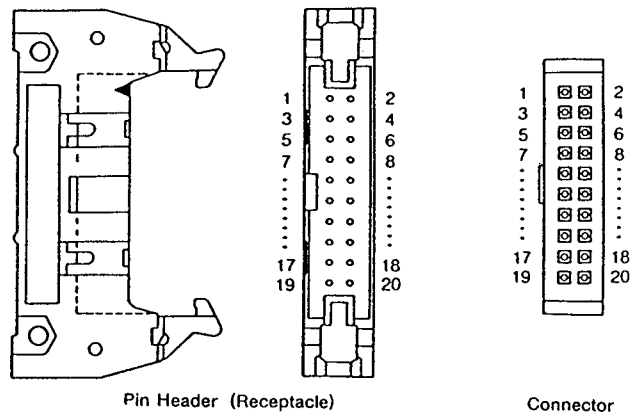

Figure 5. CON1 Connector Pins
3.4.1 CON1 (receptacle) (see Figure 5) is mounted on the PC board. Observe pin keying of its mating connector if removed and replaced. Connector must always be firmly seated